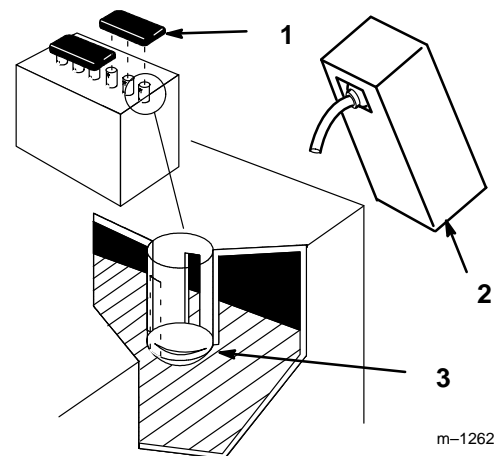

Figure 4
2. Remove filler caps from the battery. Slowly pour electrolyte into each cell until the electrolyte level is up to the lower part of the tube (Fig. 4).
- Slowly pour electrolyte into each cell until the level is once again up to the "UPPER" line on the battery case (Fig. 4) and install covers.